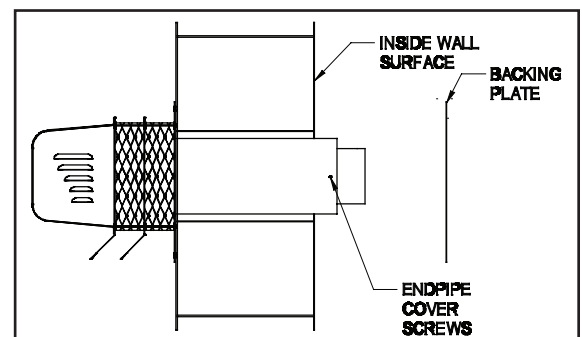

Figure 5
- Remove the end pipe cover screws on the sides of the outside pipe and remove end pipe cover. Then mount the backing plate over the outer pipe and route the flexible conduit and pressure switch tube through the holes provided in the backing plate. Fasten the backing plate to the inside wall with appropriate fasteners. (See Figure 5) Re-install end pipe cover and screws.